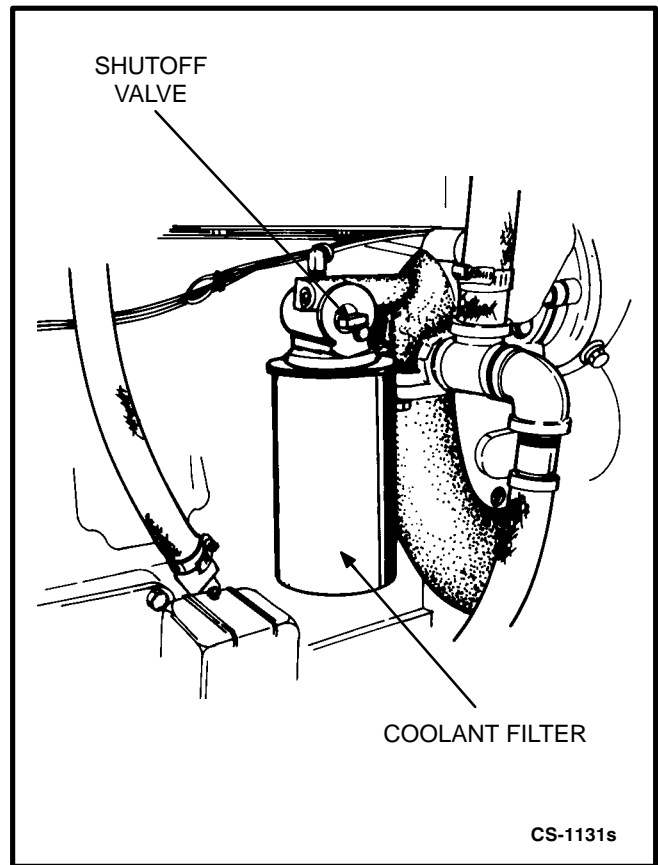

FIGURE 5-4. TYPICAL COOLANT FILTER
1. Close the shutoff valve (Figure 5-4).